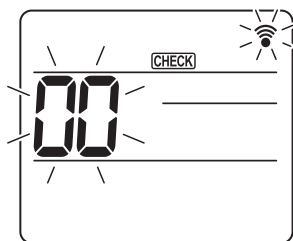
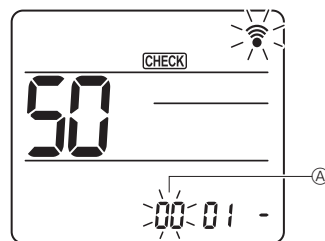
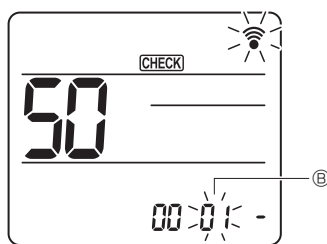
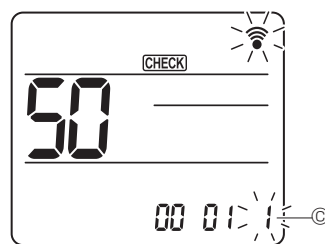

Fig. 7-16
Fig. 7-17
Fig. 7-18
Fig. 7-19
7.4.2. By wireless remote controller (Fig. 7-16, Fig. 7-17, Fig. 7-18, Fig. 7-19)
① Going to the function select mode
[CHECK] is lighted and "00" blinks. (Fig. 7-16)
② Setting the unit number
Press the [DOWN] button to set unit number ①. (Fig. 7-17)
③ Select a mode
Press the [DOWN] button to set Mode number ②. (Fig. 7-18)
④ Selecting the setting number
Use the [DOWN] button to change the Setting number ③. (Fig. 7-19)